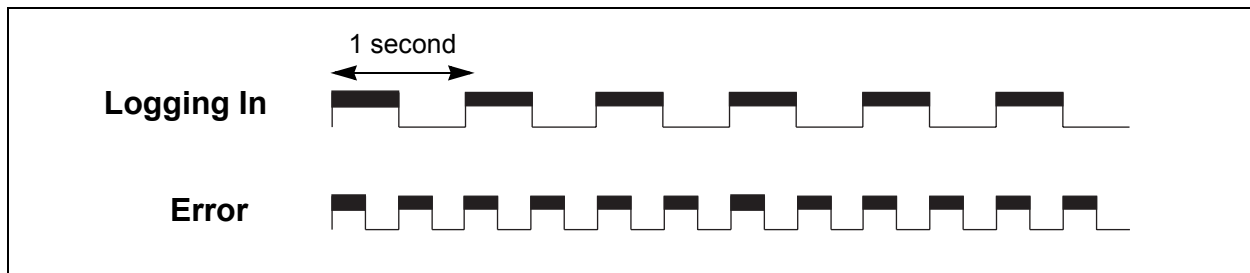

Figure 5-2. Logged-In LED Indications
- Logging in - Flashes at roughly once per second as shown in Figure 5-2.
- Error - Flashes at roughly twice per second as shown in Figure 5-2.